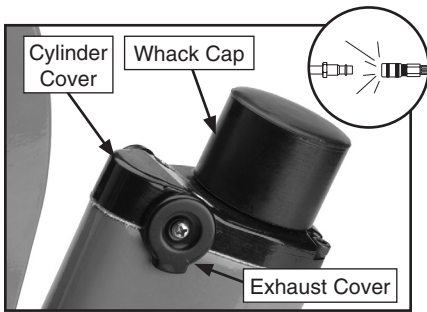

Figure 10. Removing the whack cap.
- Use a flat head screwdriver to pry off the whack cap shown in **Figure 10**.